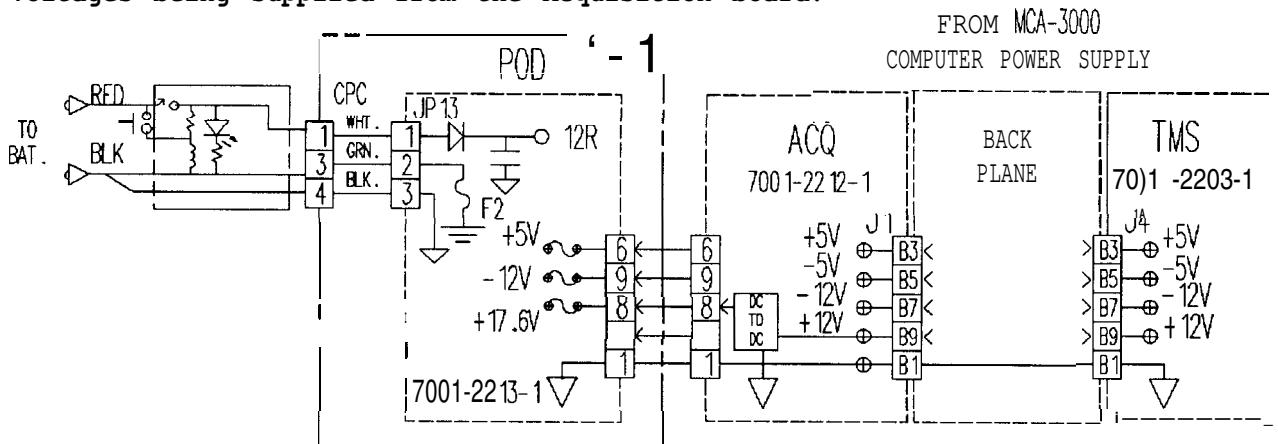

Figure 1-1. Power Supply Diagram
Referring to Figure 1-1, when the POD (remote "T" box) is hooked up, it is connected directly to the battery. For safety reasons, there must be no current flowing to prevent arcing when hooking up to battery. The Power box provides this safety factor. To allow current to flow the push button must be pressed. CR25 provides rectification and polarity input protection. If the battery leads were inadvertently reversed, CR25 would remain reverse biased preventing the unit from being energized.
I. POWER LED will not light when the POWER ON button is depressed.	<p>Are the twin flex leads from the Pod connected to a good 12 volt battery?</p> <p>YES      NO</p> <p>Connect twin flex leads to a good 12 volt output.</p> <p>Using a DVM, is there 12 volts at the input of the Power Box?</p> <p>YES      NO</p> <p>Replace the twin flex lead assembly and check for normal operation.</p> <p>Replace Battery Box/Lead</p> <p>Refer to Theory of Operation and Figure 1-1.</p>